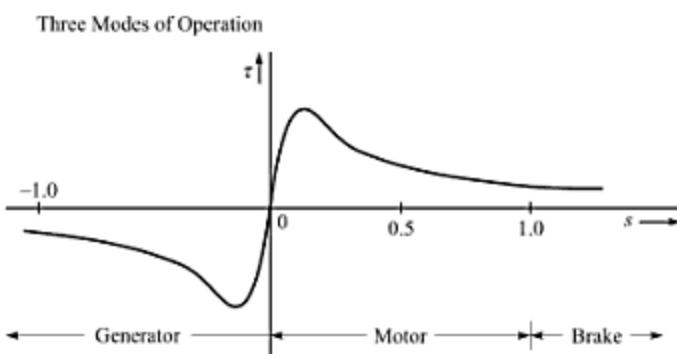

Fig. 15.11 Three modes of operation of an induction motor.
Depending on the value of slip  $s$ , there can be following three modes of operation of an induction motor (Fig. 15.11): (1) Motor action ( $0 < s \leq 1$ ), (2) Brake action ( $s > 1$ ), and (3) Generator action ( $s < 0$ ).